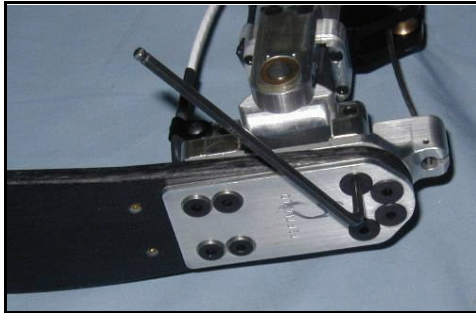

Figure 3.48 - Remove ankle bolts
3. Remove the foot skin and unbolt the composite plate by removing the eight flat head mounting bolts, as shown in **Figure 3.48**.